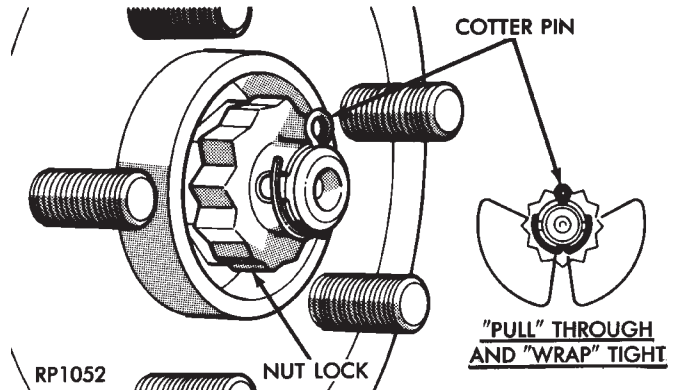

Fig. 25 Spring Washer, Nut Lock and Cotter Pin Installation
(15) Install the spring washer, hub nut lock, and new cotter pin on end of stub axle. Wrap cotter pin prongs tightly around the hub nut lock (Fig. 25).